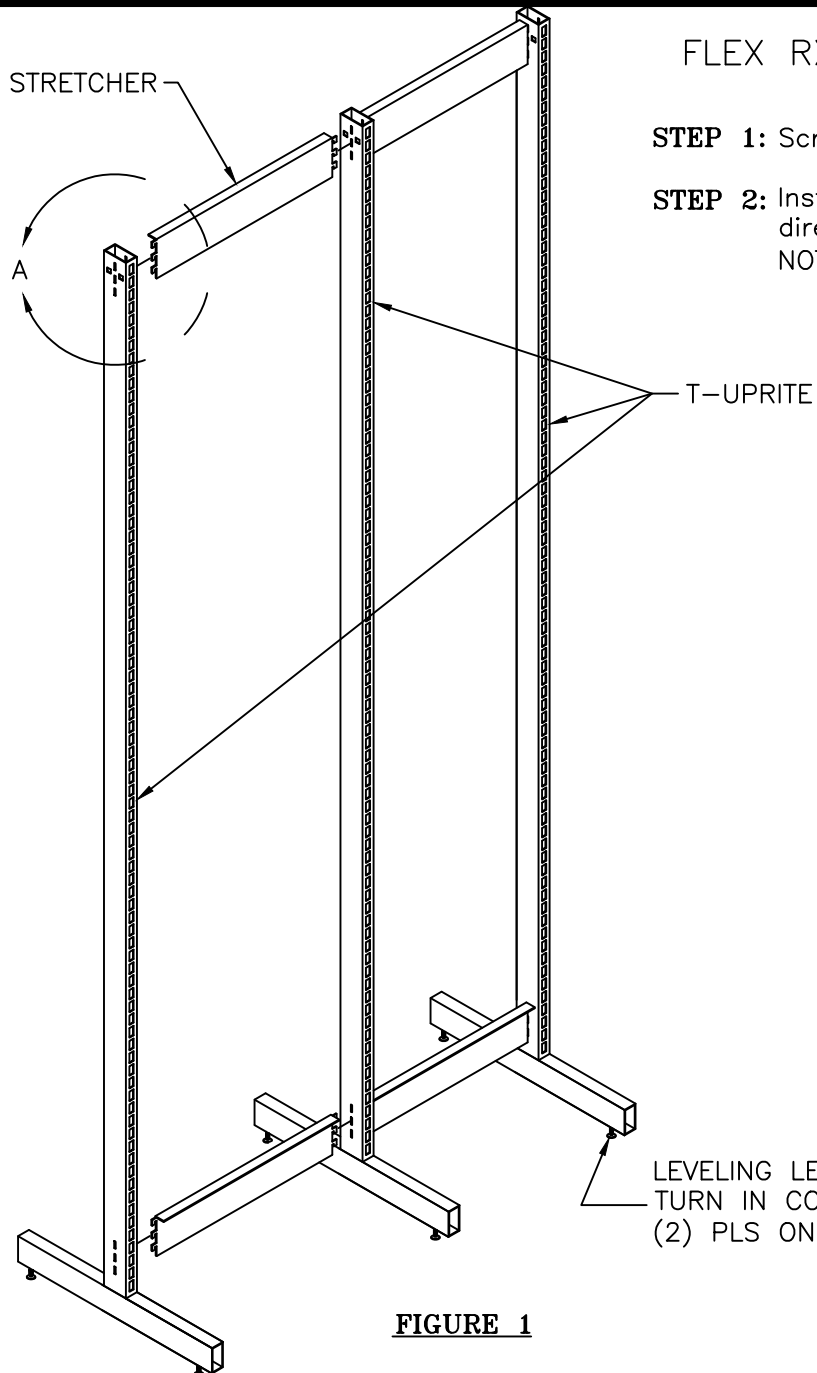

FIGURE 1
STEP 2: Install Stretchers into Uprite with top flanges facing opposite directions as shown in Figure 1.